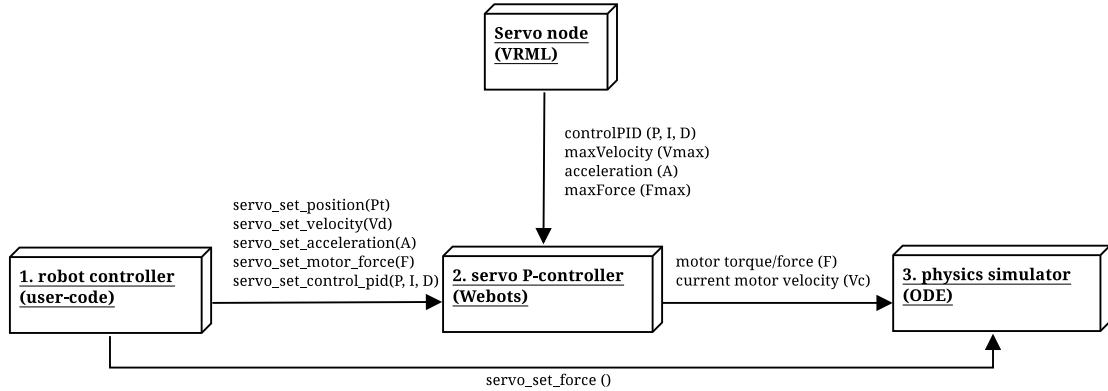

Figure 3.38: Servo control
In Webots, position control is carried out in three stages, as depicted in figure 3.38. The first stage is performed by the user-specified controller (1) that decides which position, velocity, acceleration and motor force must be used. The second stage is performed by the servo P-controller (2) that computes the current velocity of the servo  $V_c$ . Finally, the third stage (3) is carried out by the physics simulator (ODE joint motors).